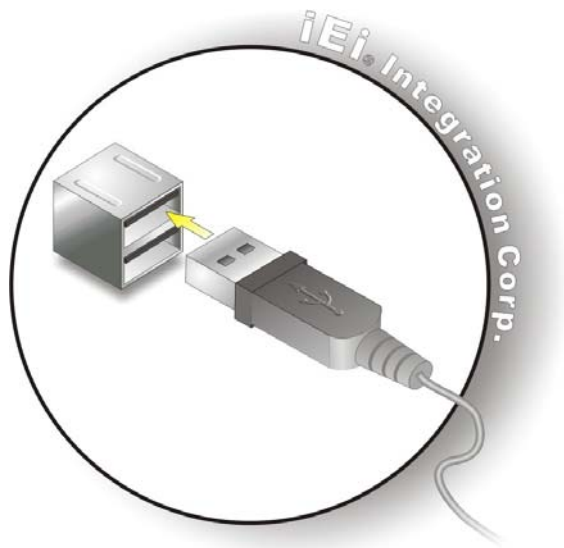

Figure 4-21: USB Device Connection
Step 2: Insert a USB Series "A" plug. Insert the USB Series "A" plug of a device into the USB Series "A" receptacle on the external peripheral interface. See **Figure 4-21**.